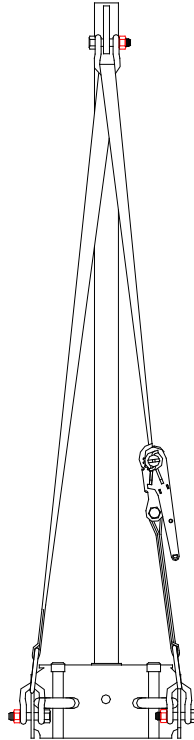

Fig. 7 Completed End Stanchion With Tie-back Strap Installed
10. Pass the end of the ratchet strap through the 5/8-in. bow shackle attached to the stanchion in Step 7, then bring it downward towards the Ratchet Assembly (see Fig. 5). Insert the strap into the Ratchet mandrel and begin tightening the strap using the ratchet handle (see Fig. 6). Continue tightening only until the stanchion is pulled vertical or leaning very slightly towards the Tie-back plate, it should not be so tight as to bend or bow the stanchion. Verify that the ratchet strap makes at least one full revolution on the ratchet mandrel. If it does not, the strap must be fully loosened, some webbing pulled from the mandrel to give more slack into the webbing and then retightened. Continue this adjustment process until the webbing makes at least one full revolution on the ratchet mandrel so that the Tie-back strap can reach maximum strength. Any surplus ratchet webbing should be bundled up and secured to prevent it from becoming a trip hazard. See Fig. 7 for a diagram of the finished Tie-back webbing arrangement.